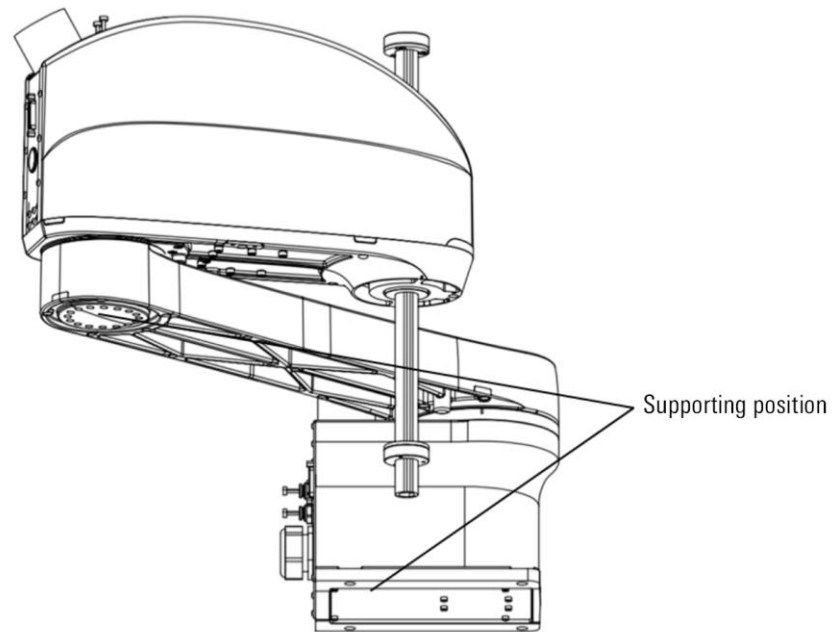

Figure 6-3 Diagram of the supporting position of the handling manipulator
- When carrying the robot, please fix the robot on a carrying tool (such as a cart), or hold the shaded part (under the first arm and under the base, refer to Figure 6-3) with your hands and carry it by more than 2 people;